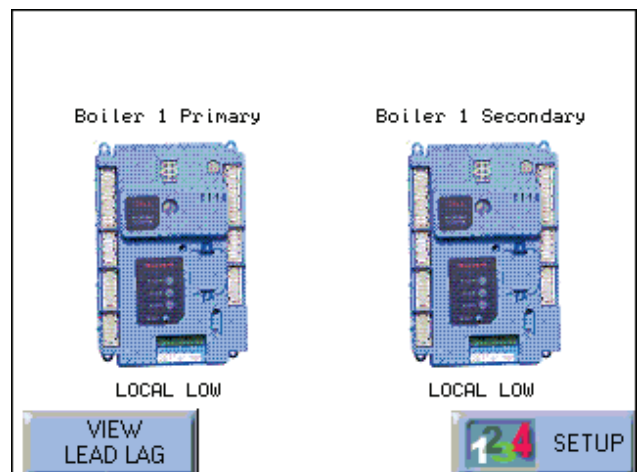

Fig. 31 - Home Screen
1. From the Home screen (Fig. 31), press the icon for the individual controller you want to check. In this example, we will press the icon on the left.